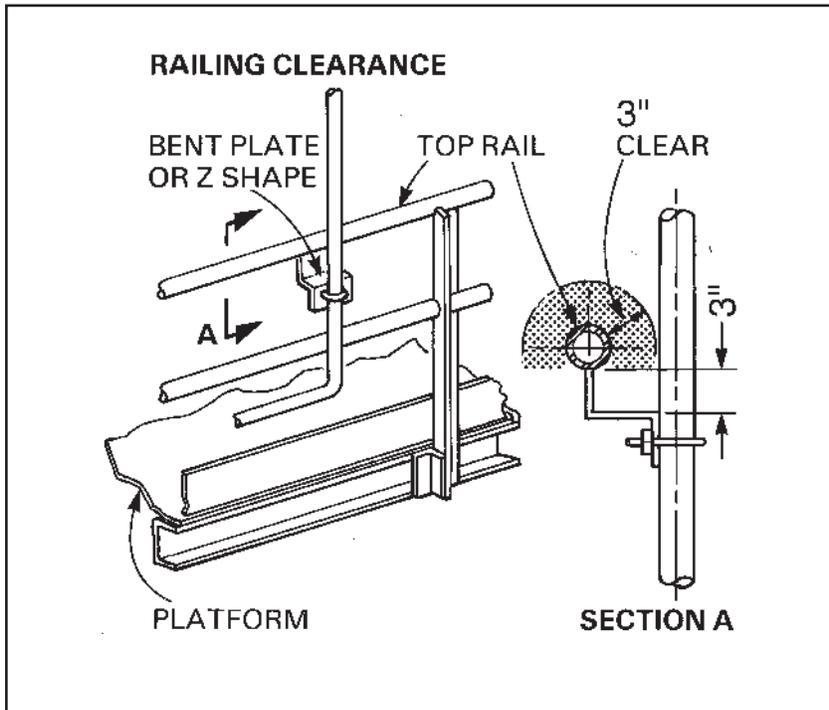

Figure 2.4 Equipment Attachment to Top Rail
2. Equipment should not be attached to top rails. Where attachments to the top rail are unavoidable, use a Z-type connection as shown in *Figure 2.4*, or other arrangement which maintains the minimum clearance.